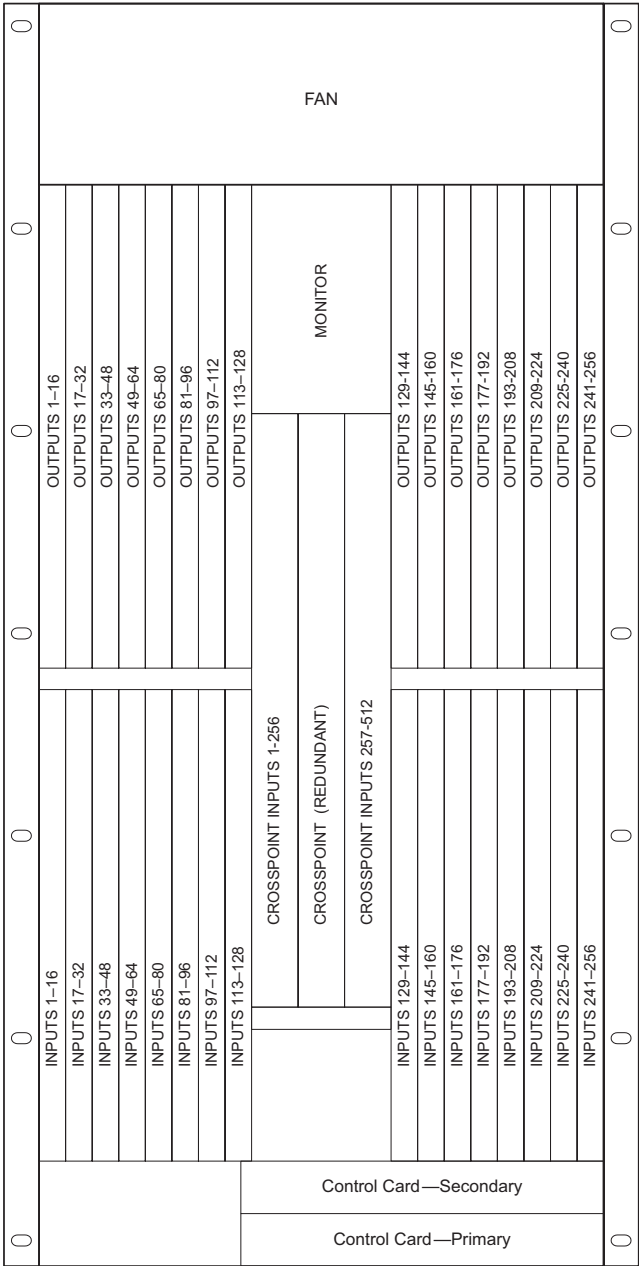

Figure 3-4. Card Locations in Router Frame (Front View)
- 1 Locate the slots for the control, input, output, crosspoint and monitor cards, as shown in Figure 3-4 on page 32.
Insert the card in designated slots only, as follows. (See Figure 3-4 on page 32.)